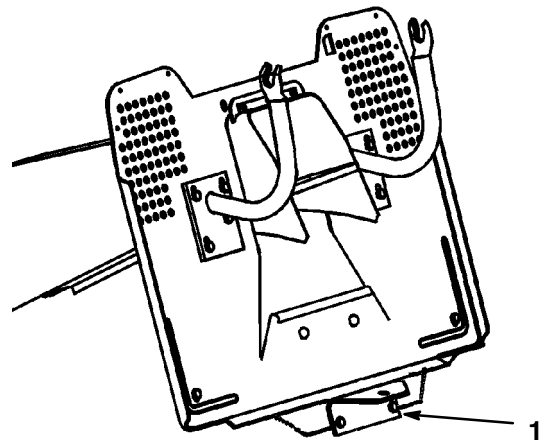

Figure 16
2. Install the attachment to the towing hitch located at the lower rear part of the tractor (Fig. 16).